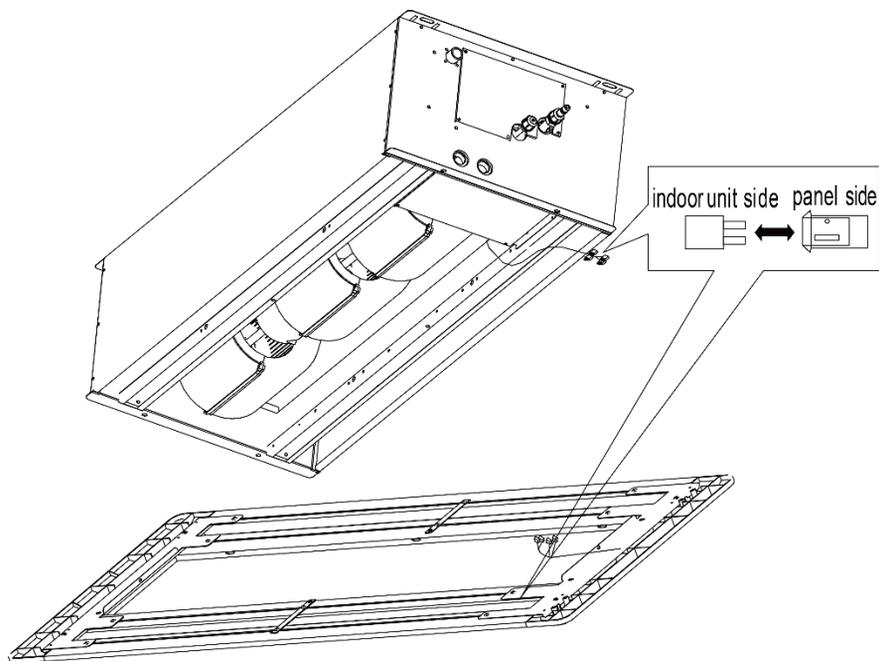

Fig. 4.4.3
(3) Connect the decoration panel terminals (Female) to body terminals (male) as shown in fig.4.4.3.